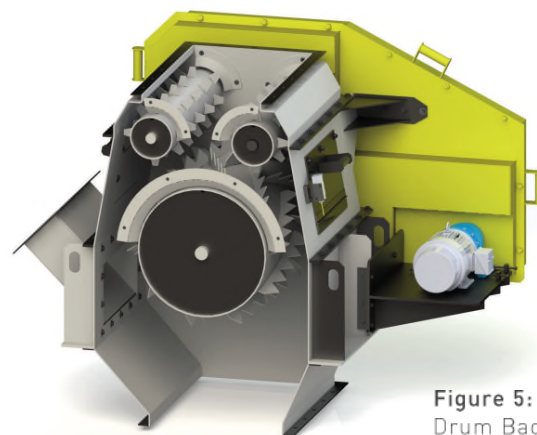

Figure 5: Detroit® Triple
engineered to handle these difficulties. The Detroit® Bagasse Triple Drum Feeder, shown in figure 5, supplies fuel to the furnace at a closely controlled and uniform rate. The feeder consists of two (2) metering drums which control the flow of the refuse biomass fuel and one (1) carding drum to sort material into a consistent and uniform fuel flow. Bagasse is then distributed evenly into the furnace via a Detroit® Air Swept Distributor Spout.